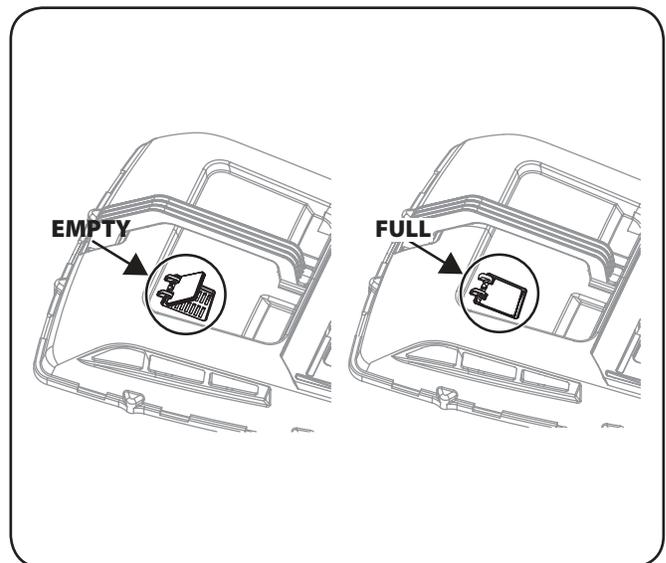

Figure 3-8
3. Refer to Fig. 3-8 to check grass catcher.